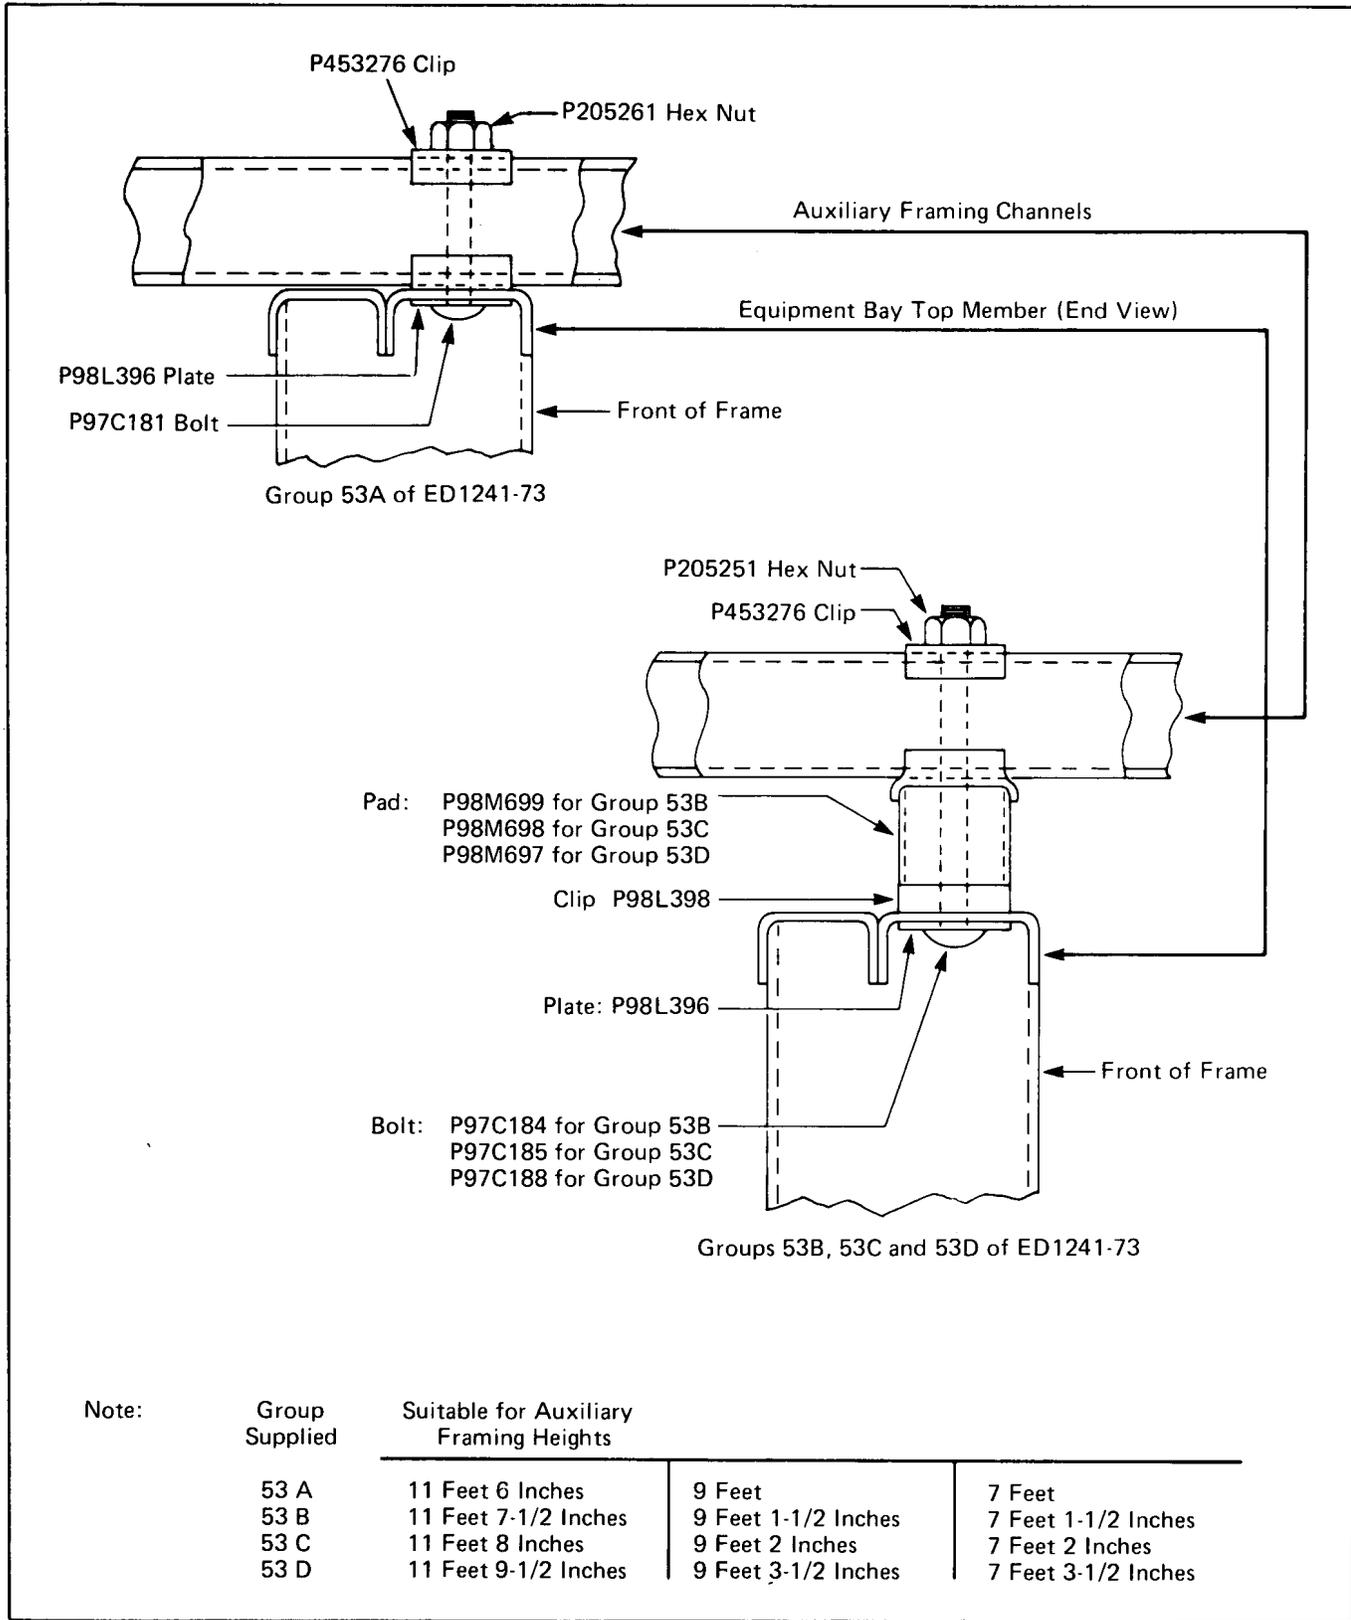

Fig. 8 — Securing Bay to Auxiliary Framing
- (1) Remove the temporary supporting straps (4.08[2]). Avoid disturbing the floor anchors by pushing or leaning against the bay assembly.
- (2) Assemble and install the top support assemblies in accordance with Fig. 8.